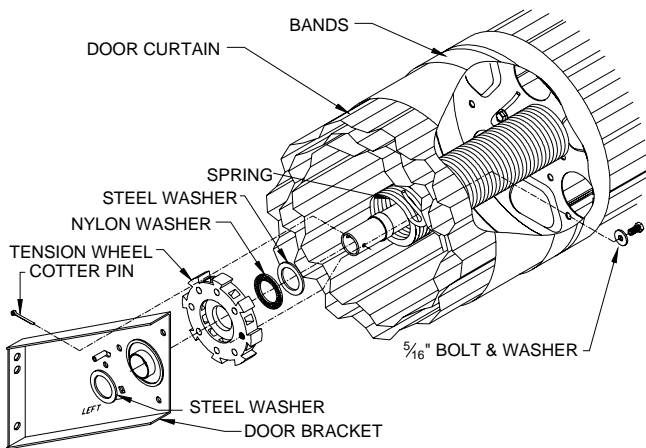

Figure 5.
5.2T Slide the steel washer onto the axle, then the black nylon washer. See Figure 5. Apply a small amount of grease to the black nylon washer to assure smooth operation. Stretch spring past axle end and slide door bracket between coils and end of axle. This makes it easy to get the bolt started. Pass a 5/16" bolt with a flat washer through the loop in the end of the door spring and screw into tapped hole in the tension adjustment wheel. Slide the tension adjustment wheel onto axle. ENSURE THAT THE SPRING FITS AROUND THE RING ON THE TENSION WHEEL BEFORE FINAL TIGHTENING. See Figure 6. Slip the axle end through the bearing in the door bracket. Rotate the tension release pawl to allow the tension adjustment wheel to slide pass. Install the second steel washer onto the axle and secure with a cotter pin through the hole punched in the axle end to keep the door bracket in place (omit washer if it blocks cotter pin hole). Repeat on other end if the door has two springs.